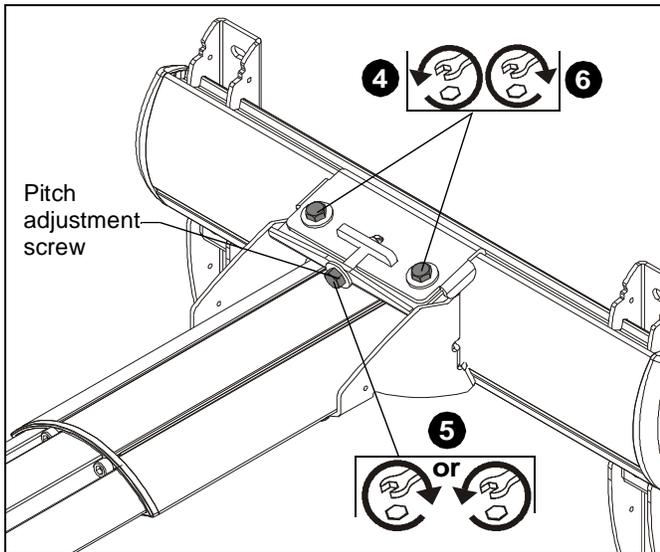

Figure 13
4. Loosen two bolts on either side of pitch adjustment screw. (See Figure 13)
- Turn **counterclockwise** to lower mounting level. (See Figure 13)
6. Tighten two bolts on either side of pitch adjustment screw. (See Figure 13)